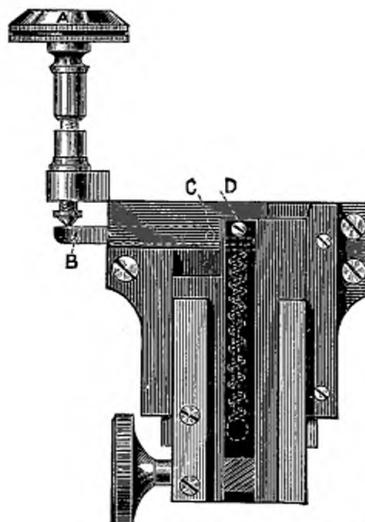

FIG. 22. FRONT VIEW.
**The Substage** is of specially substantial construction; it has rectangular screw adjustments to centre, very fine rackwork to focus, and is arranged to swing out of the optical axis. A **Fine Adjustment** is included with the Grand Model instrument. It may be either of two patterns: (1) to work from above the Stage surface by the method shown in Fig. 22 and in position on the Instrument on page 87, or (2) by means of a vertical lever worked by a milled head, mounted parallel with and just above the rackwork milled head of the Substage, as shown (F) on the Royal Instrument on p. 79. The former method of mounting entails a slight extra charge (£1 5 0).